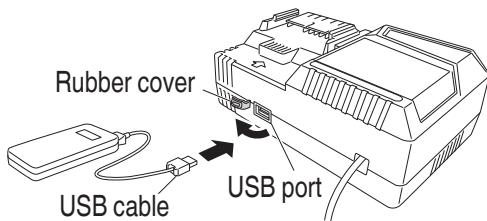

Fig. 37
(2) Connect the USB cable. (Fig. 37)